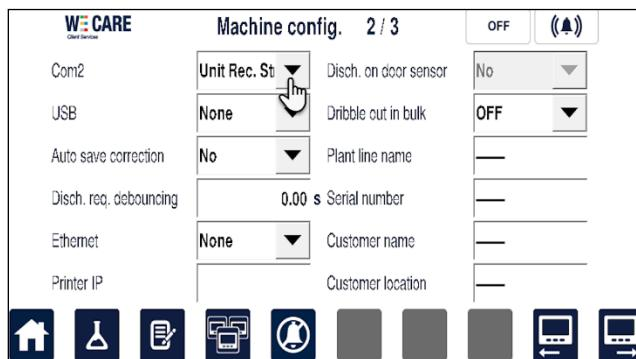
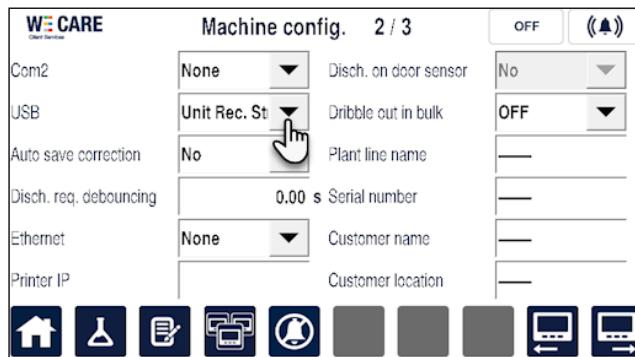

Figure 4: Unit Record String on Com2 Port
Figure 5: Unit Record String on USB Port
- **Figure 4 and Figure 5** show the way to select Unit Record String Data option from the drop-down list on Com 2 and USB fields respectively.